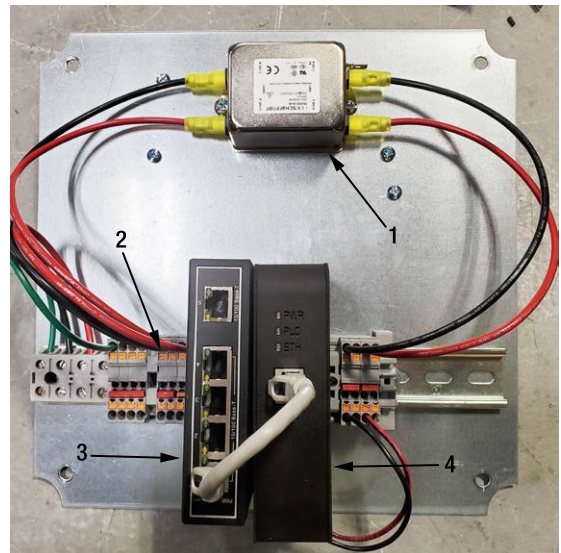

Figure 6-1: Nexus BB Installation (DC modem)
6.2.0 The Nexus BB has multiple configurations of how to set it up during the installation process. **Figures 6-1 and 6-2** show the basic setup of installing the unit within an enclosure.
6.2.5 Callouts (AC/DC) for **Figures: 6-1 & 6-2**